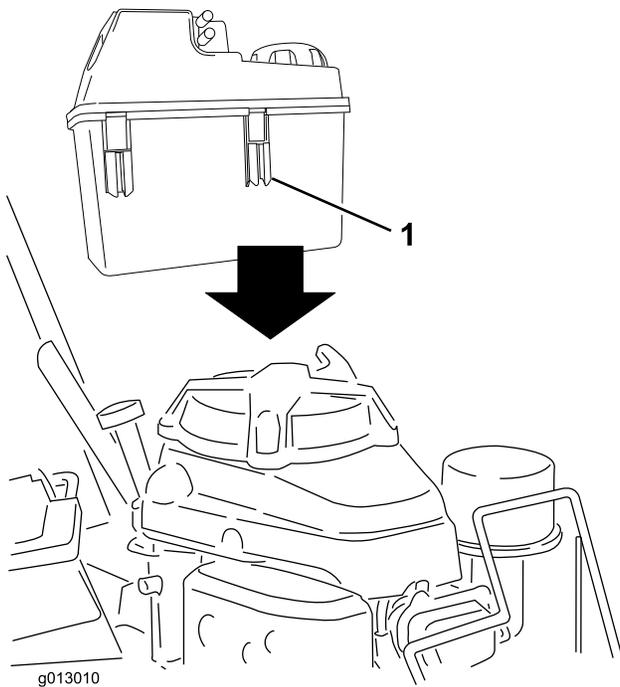

Figure 4
- Slide the plastic clips on the front of the fuel tank onto the fuel tank mount (Figure 4).